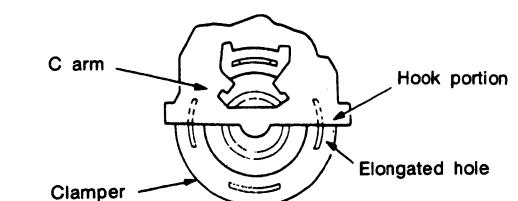

Fig. 6
(7) Replacement of the clamper (Fig. 6)